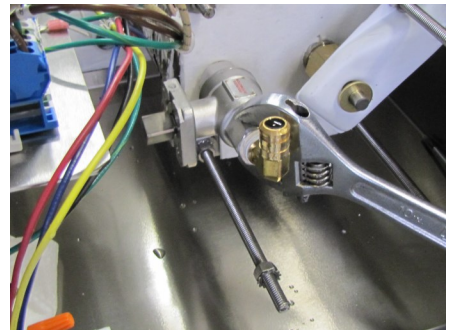
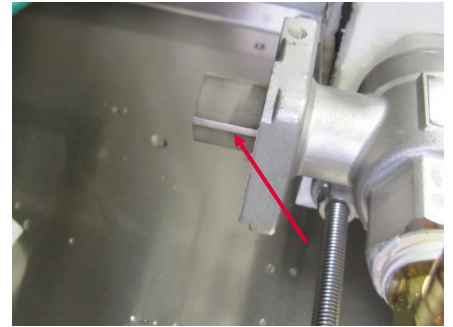

Figure 11
Figure 17
11. Remove the valve from the bottom of the A2000 vessel. See Figure 11.
17. Install the new valve making sure it is tight and oriented as shown in Figure 11. Also make sure that the square tube coupling is in place as shown in Figure 17.